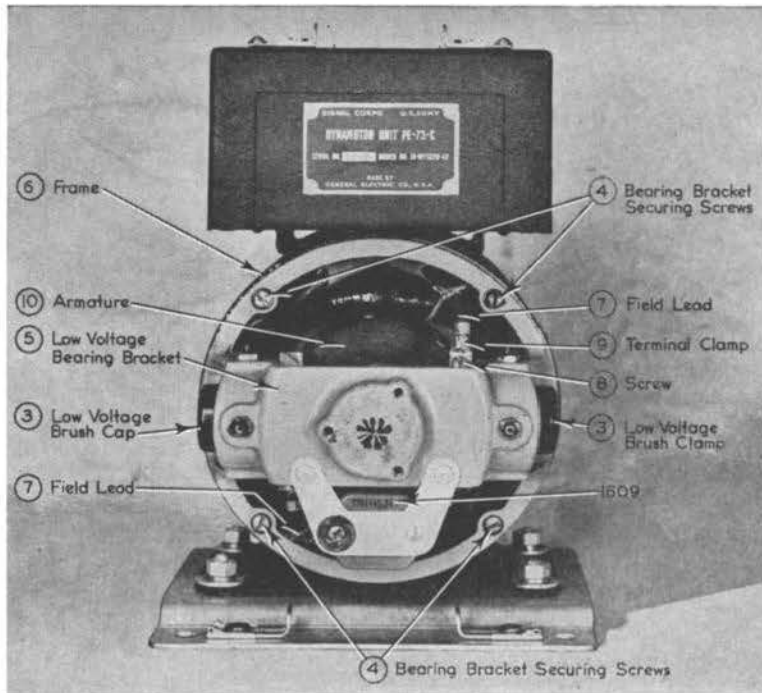

Figure 65. Liaison Dynamotor—Low Voltage End Bell Removed
- (2) Unscrew the slotted brush cap, (3) Figure 65 in each brush holder and remove all four brushes. Take special care to mark the position of the brushes in their holders such that they may later be replaced in their exact original positions.
- (3) Unscrew the four slotted screws, (4) Figure 65, located around the rim of the low-voltage bearing bracket (5) Figure 65, and pry the bracket loose from the frame (6) Figure 65. The low-voltage end of the dynamotor can be identified by the long, small diameter commutator and the large copper-graphite brushes.
- (4) Detach the two field leads (7) Figure 65, from the terminal clamps on the low-voltage brush holders by unscrewing the
screw (8) Figure 65, in each terminal clamp (9) Figure 65. It is not necessary or advisable to remove the terminal clamp from the brush holders.
- (5) The bearing bracket (5) Figure 65, can now be taken out of the way and the armature, (10) Figure 65, withdrawn from the frame. Take care not to injure the armature windings or commutator by rubbing against the field poles. Do not lose any shim washers which may be in the bearing housings, or which may stick to the bearings. If any shims are present they must be reassembled in the same housing.